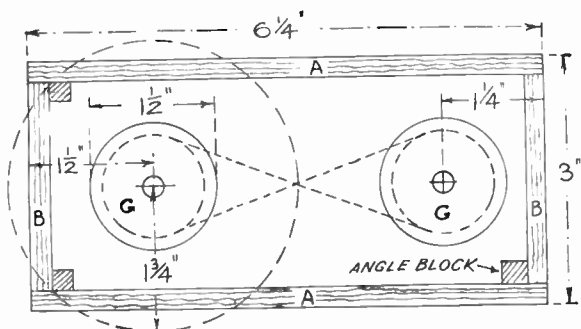
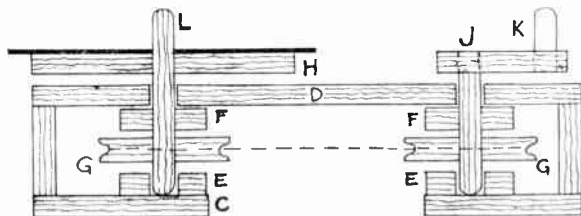
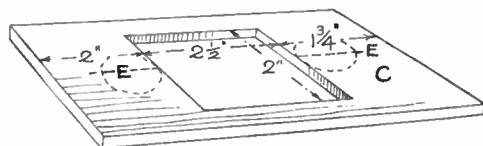

Fig. 1—Plan view of the toy
Fig. 2—Sectional drawing showing the working parts
Fig. 3—Details of the floor
In the illustration is shown how the finished article will look when completed and painted up. The method of working the toy is simple and is easily explained in the plan Fig. 1 and the sectional diagram Fig. 2.
pulleys and disc is given in Fig. 1 and from this also will the construction of the box be understood.
We commence the making of the toy by outlining and cutting the sides and ends of the box (A) and (B) respectively in Fig. 1. Sides (A) are $6\frac{1}{4}$ ins. long by 1 in. wide, and ends (B) $2\frac{1}{2}$ ins. long by 1 in. wide. Wood $\frac{1}{2}$ in. thick is used throughout in making the toy. The floor (C) of the box is shown in Fig. 3 and its size is $6\frac{1}{2}$ ins. by 3 ins. On this piece is set out the measurements of the square of wood which is to be cut out, the idea of its removal being to allow space for
Next prepare the four discs (E) and (F) in Fig. 2. These are drawn with com-
passes set at $\frac{1}{2}$ in. radius, and in the centres $\frac{1}{2}$ in. holes must be cut, these holes in one pair of discs (E) must be enlarged—or cut round with the fretsaw to full $\frac{1}{8}$ in. so as to give freedom of movement of the upright spindles—see Fig. 2.
Now take in hand again the floor (C) and run a centre line in pencil lengthways each side of the open square—see Fig. 3, and on this glue the two discs (E) in exact position shown by the dotted lines; see also cross section Fig. 2 for these two discs.
measurements given in plan Fig. 1. The sides and ends (A) and (B) are next glued to the top of the box, see Fig. 2, and, for additional strength, four ½in. square blocks of wood should be glued in the angles formed between sides and ends (see plan). Next turn to the making and assembling of the crank and its spindle, and the long spindle (L) and disc (H).
Now take the spindle (L). This is about 2½ins. long; and the disc (H) to go over its top must be 3ins. in diameter and is glued ½in. down the spindle as seen in Fig. 2. The two pulleys (G) are next made 1½ins. in diameter with ½in. holes in the centres. The grooves are cut round the edges by means of a rat-tailed file, the discs being held conveniently in a vice during the process. Cut the grooves deeply so that the belt has a substantial hold when in use.
Careful attention must now be paid to the assembly of these working parts. Taking the crank first, proceed to (1) glue crank to spindle, (2) push spindle through top (D), and work on the disc (F), first wiping the spindle with glue where this disc will eventually come, that is, just clear of the underside of the top (D), see section Fig. 2. (4) Push on pulley (G), adding glue to spindle as for disc (F). The distance from the lower surface of pulley to the end of spindle should be full ½in. Note that the end of the spindle is rounded where it goes into disc (E) on the floor.